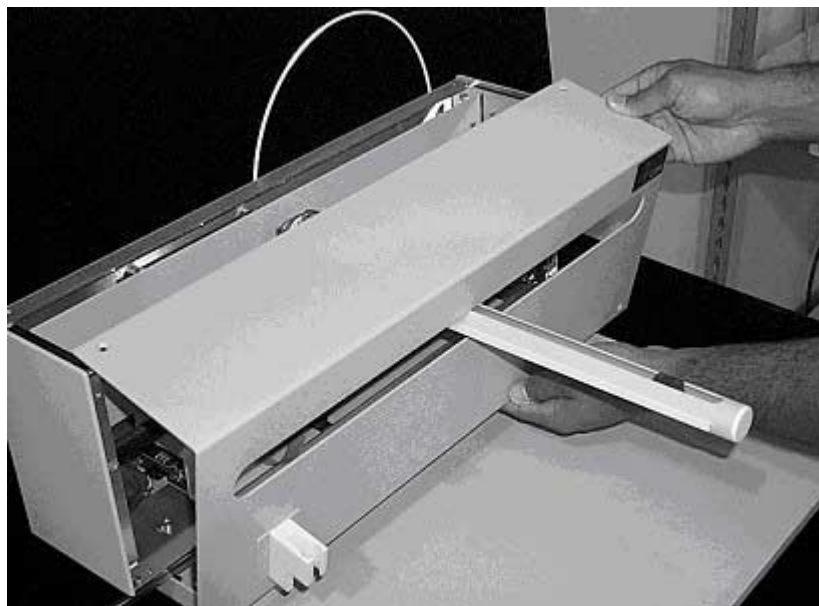

Figure 1-8. View of ASX-510 Auto Sampler with the front cover being removed.
6. The front cover can be removed by lifting it slightly and pulling forward. See Figure 1-8.